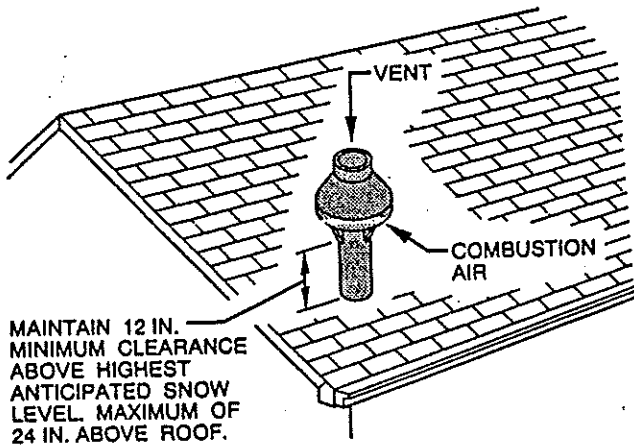

Fig 31. Concentric Vent and Combustion-Air Termination, Roof Termination (Preferred)
**ROOF TERMINATION:** Locate assembly through roof to appropriate height as shown in Fig.31.
6. Check required dimensions as shown in Fig 31 or 34.